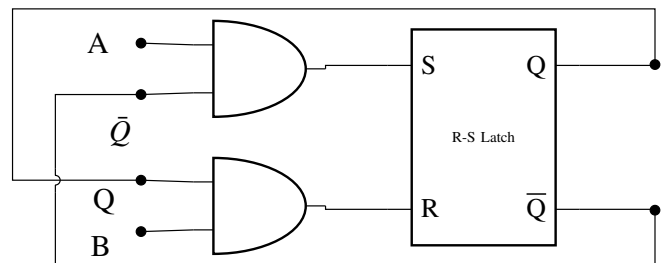

Fig. 3.31
49. The two inputs  $A$  and  $B$  are connected to to an R-S latch via two AND gates as shown in Fig. 3.31. If  $A = 1$  and  $B = 0$ , the output  $Q\bar{Q}$  is (GATE IN2017,43)